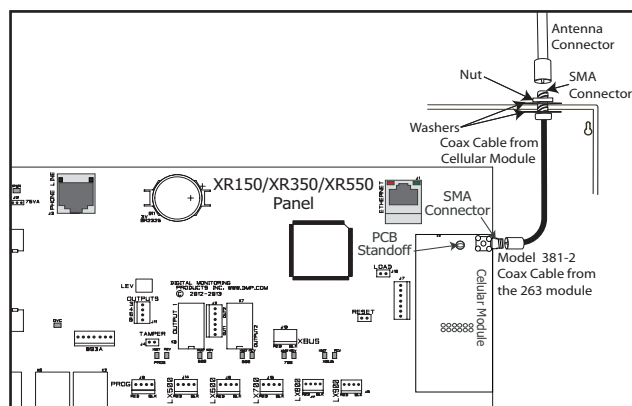

Figure 13: Cellular Module Installation
3. Press the module PCB card 12 pin connector onto the Cell Module (J24) connector on the panel while applying even pressure to both sides of the board to fully seat the module. See Figure 13.
4. Attach the included 383 Antenna to the SMA connector. See Figure 13.